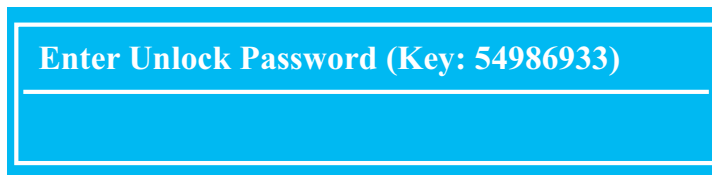

Figure 2:27. Enter Unlock Password
3. Take note of the generated key code. In **Figure 2:27** example, the key code is 54986933.